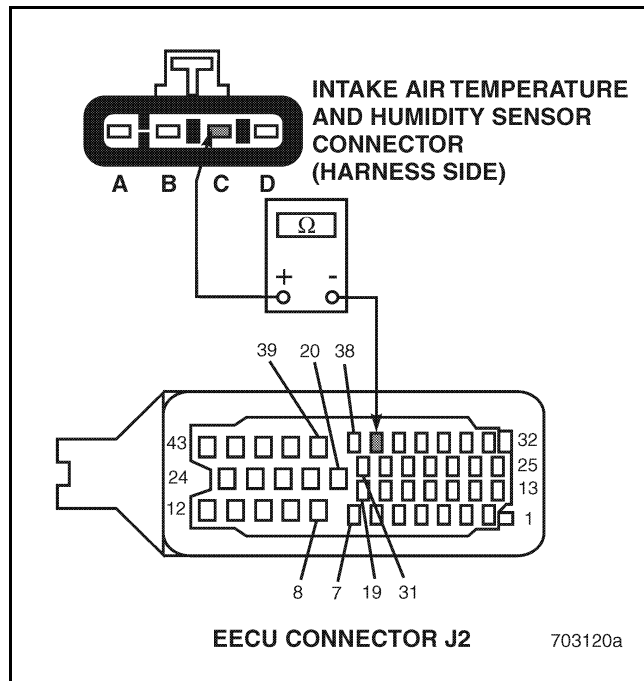

Figure 328
4. Check for continuity between IATH Sensor harness connector pin C (ground line) and EECU harness connector J2 pin 37 (see Figure 328).